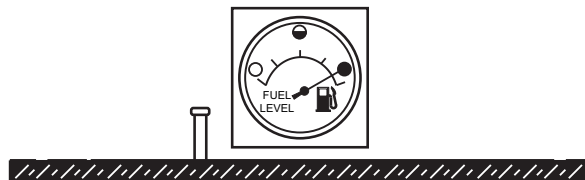

Figure 34. Full Fuel Tank
- NEVER overfill the fuel tank** — It is important to read the fuel gauge when filling the trailer fuel tank. **DO NOT** wait for fuel to rise in the filler neck (Figure 34).